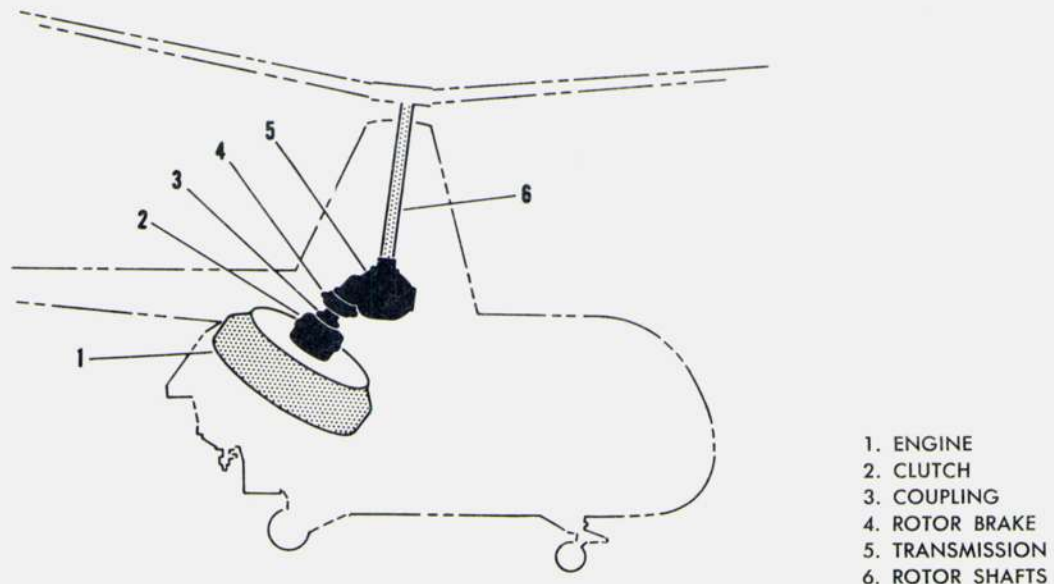

Figure 1-11
The transmission system (see figure 1-11) controls application of engine power to the rotors. The system consists of a clutch, transmission, and rotor brake. The clutch, when engaged, applies the engine power to the transmission and rotors. The transmission maintains the speed of the rotors at approximately 1/10th of the engine speed and synchronizes the counter-rotating rotors. The rotor brake is used to stop freewheeling of the rotors during ground operations.
The transmission (5, figure 1-11) synchronizes the counter-rotating, intermeshing rotors, applies engine power to the rotors at reduced speed and transfers the resulting lifting forces from the rotors to the helicopter structure. The d-c generator, used for furnishing power to the helicopter's electrical system, is mounted on and driven by the transmission. The transmission is centrally located below the pylons, where it can apply the lifting forces from the rotors directly to the fuselage. Since the transmission has fixed gear ratios, no operating controls are necessary; however, pressure and temperature gages are provided for the transmission oil system.
The rotor brake (4, figure 1-11) is a single-disc, mechanical friction unit, which is used to stop the rotors from freewheeling during ground operations such as engine shutdown. The brake acts on the input shaft of the transmission, thereby utilizing the mechanical advantage of the transmission reduction gearing. The brake is controlled by a brake lever located on the cabin ceiling. A flexible cable connects the lever to a hydraulic master cylinder located in the right-hand pylon. Movement of the brake lever actuates the hydraulic cylinder. The resulting hydraulic pressure is applied to the rotor brake friction unit.
**Rotor Brake Lever.** The rotor brake lever (1, figure 1-11) is located in the center of the cabin ceiling. The